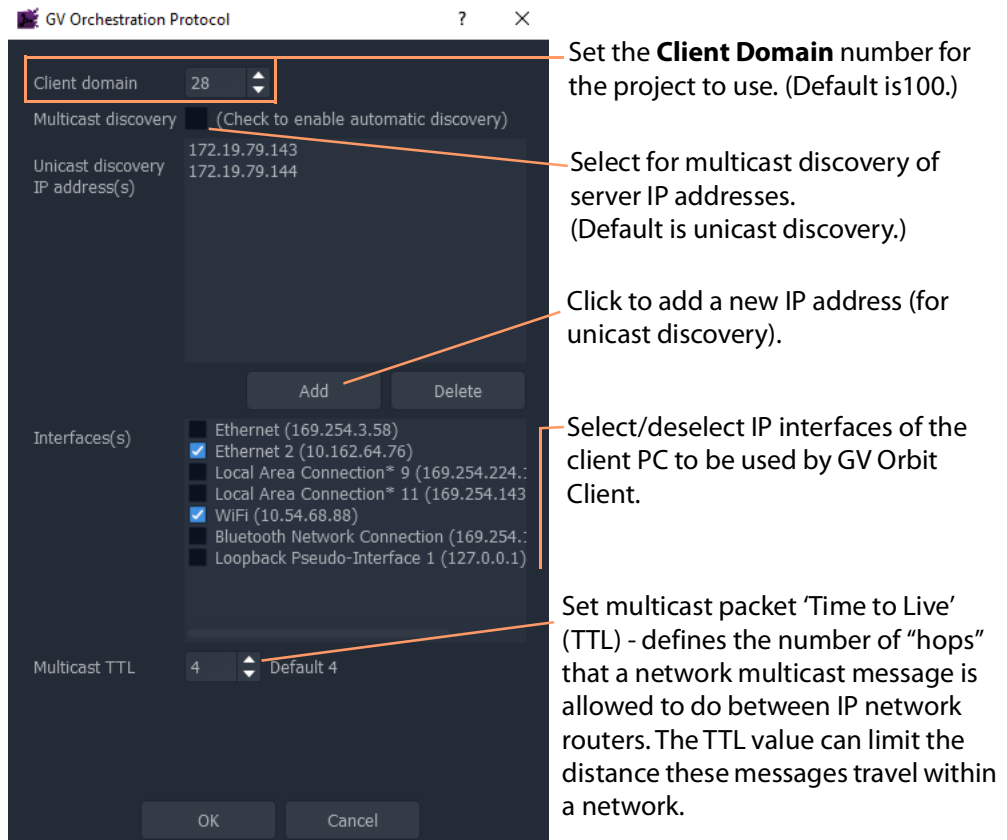

Fig. 2-44: GV Orchestration Protocol Dialog
- 3 Other project parameters can be changed in the dialog, see Figure 2-44.